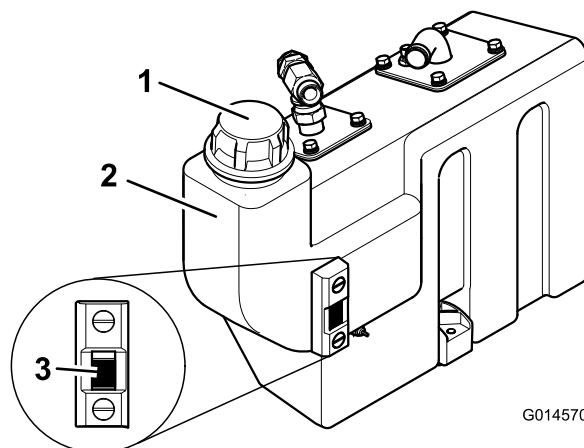

Figure 26
3. If hydraulic oil is needed, clean area around the cap of hydraulic tank (Figure 26). Remove cap from the tank.